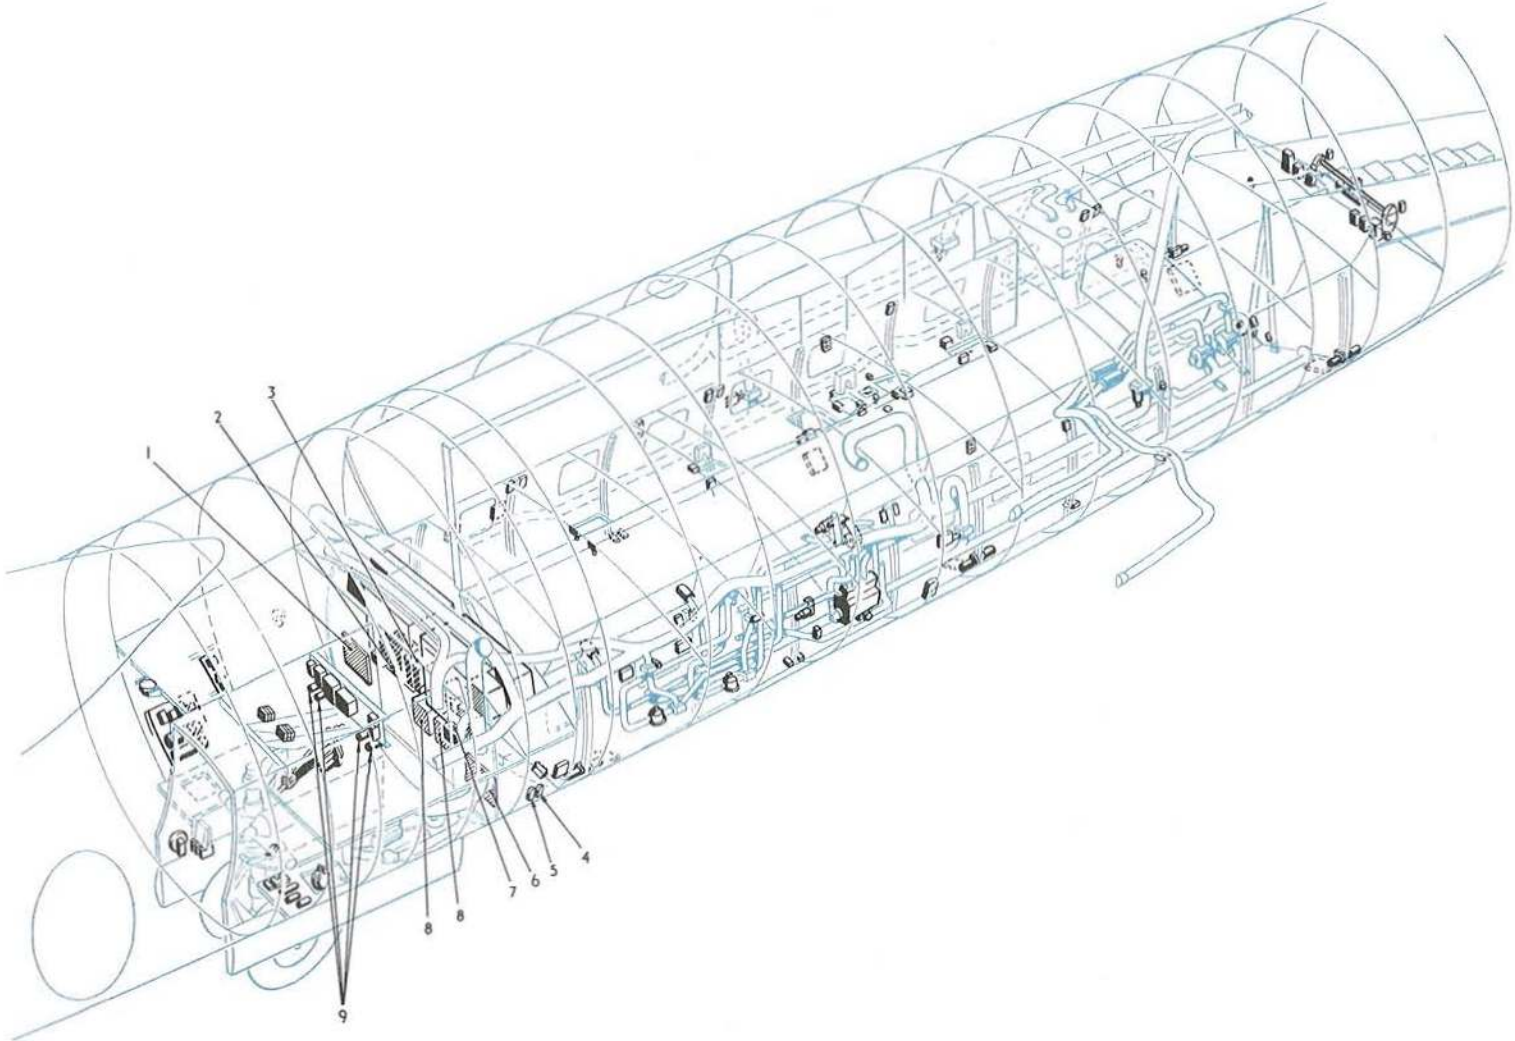

Fig.2 Location of equipment(2)
Key to fig. 2 (Location of equipment (2))